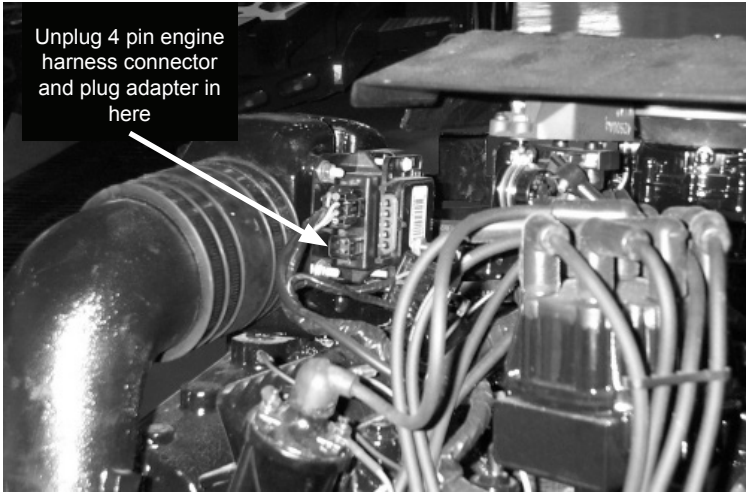

Figure 34
- 2) Locate the 3rd generation Thunderbolt V module mounted on the exhaust elbow . Unplug the engine wiring harness from the module's four pin data connector. Plug the square connector of the Thunderbolt V adapter into this connector (see Figure 34 on the next page).